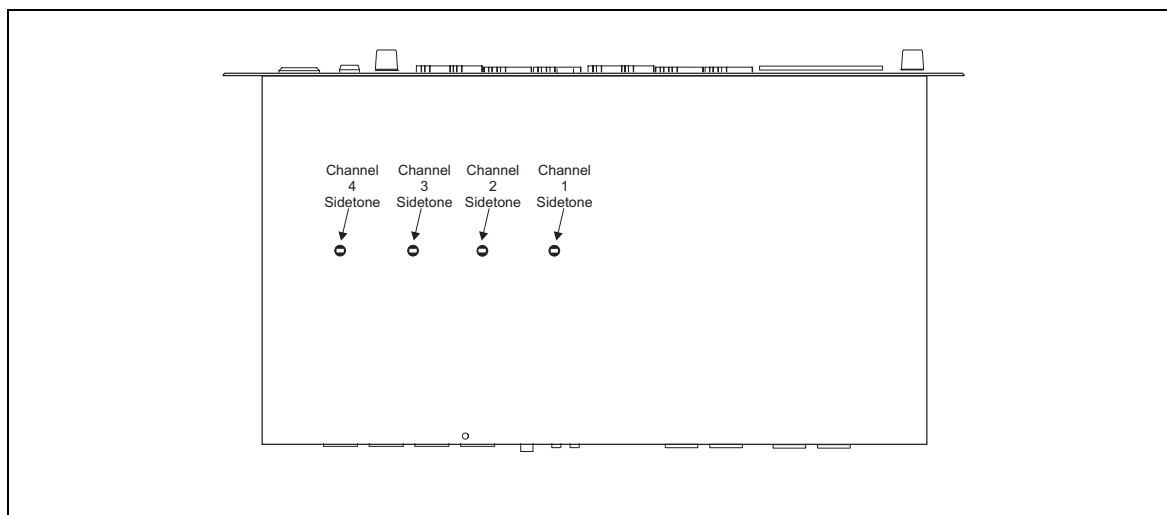

Figure 6. Sidetone Adjustment diagram (MS-4002 bottom view)
4. Using a small, standard screw-driver, adjust the **channel 1 sidetone** (Figure 6) through the access hole in the bottom of the MS-4002 to minimize the tone volume.